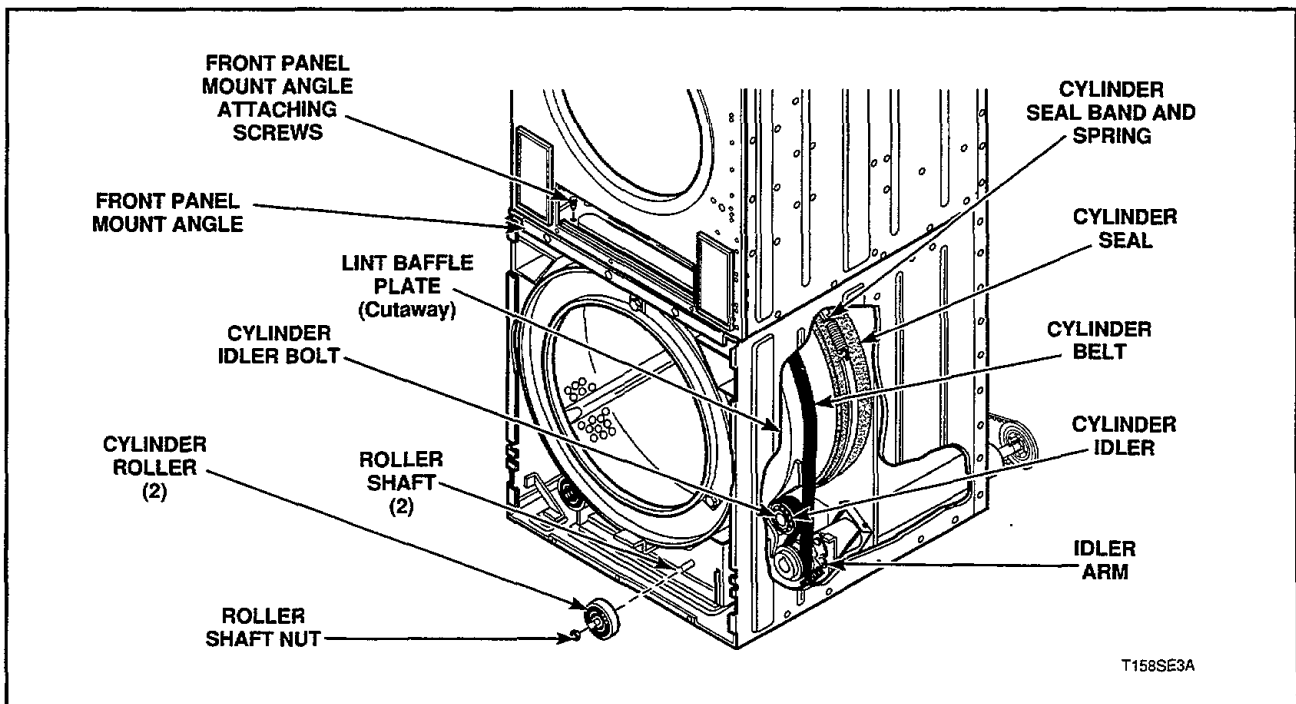

Figure 14
#### 14. CYLINDER ROLLERS (Figure 14)
### 15. CYLINDER BELT (*Figure 14*)
### 16. CYLINDER IDLER (*Figure 14*)
- e. Remove screws attaching lint baffle plate to cabinet. Remove lint baffle plate and discard, *Figure 14*.
Unlock and remove top lint drawer. Remove screws attaching front panel mount angle to top unit base and remove front panel mount angle from bottom unit, *Figure 14*.